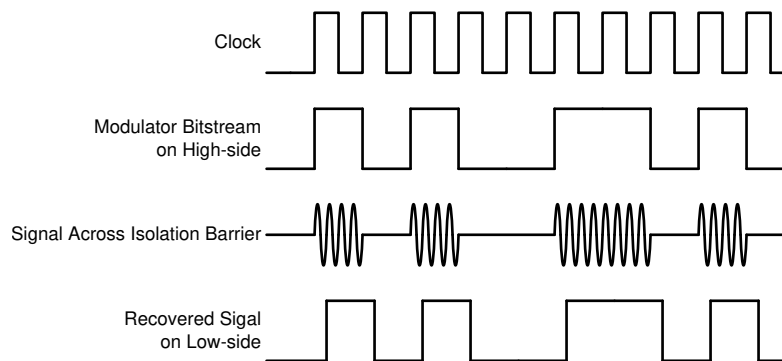

图 7-3. OOK-Based Modulation Scheme
The AMC3306M05 uses an on-off keying (OOK) modulation scheme, as shown in 图 7-3, to transmit the modulator output bitstream across the SiO₂-based isolation barrier. The transmit driver (TX) shown in the *Functional Block Diagram* transmits an internally generated, high-frequency carrier across the isolation barrier to represent a digital *one* and does not send a signal to represent a digital *zero*. The nominal frequency of the carrier used inside the AMC3306M05 is 480 MHz.